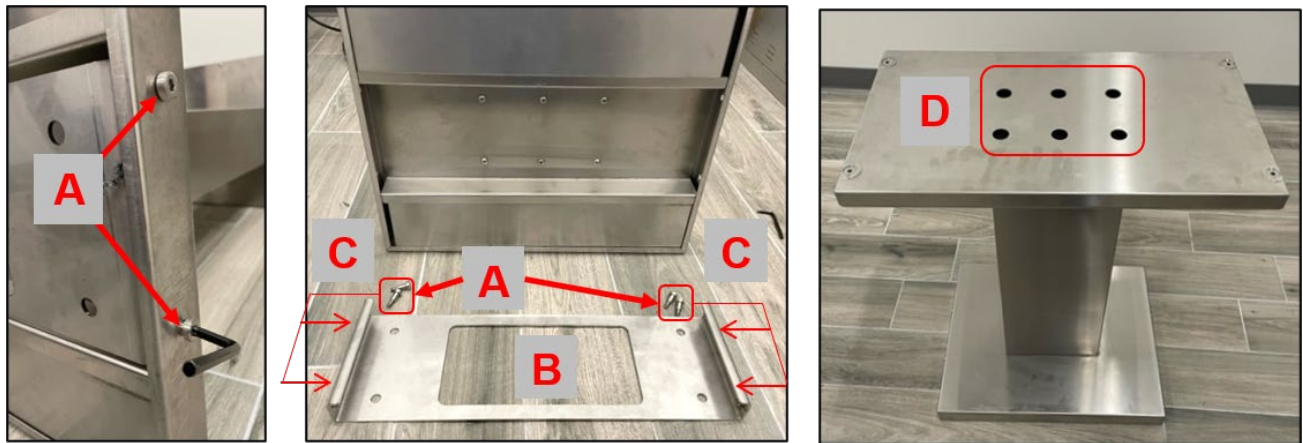

Figure 7 Attach the Base to Pedestal
1. Use an Allen head wrench to remove the four hex head bolts from the sides of the base (Figure 7 A) to release the mounting plate (Figure 7 B)
4. Use an Allen head wrench to secure the pedestal to the mounting plate using the four hex head bolts (Figure 7 C)
6. Align the six holes in the grill platform with the bolt holes in the top of the column; reach through the larger holes in the upper surface to attach using the provided bolts (Figure 7 D)